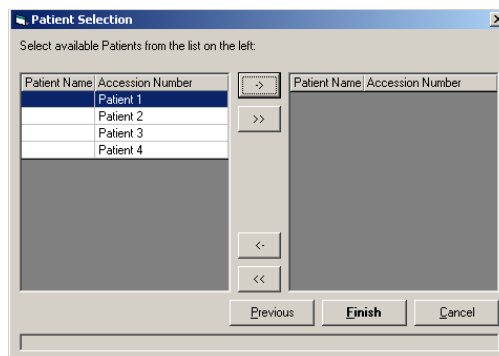

Figure 5-96 Patient Selection Dialog Box
3. Enter the information (in this example, a patient report) and click **Next**. Another information dialog box opens. Enter specific information for the type of report the system is compiling. Figure 5-96 shows a Patient Selection example.